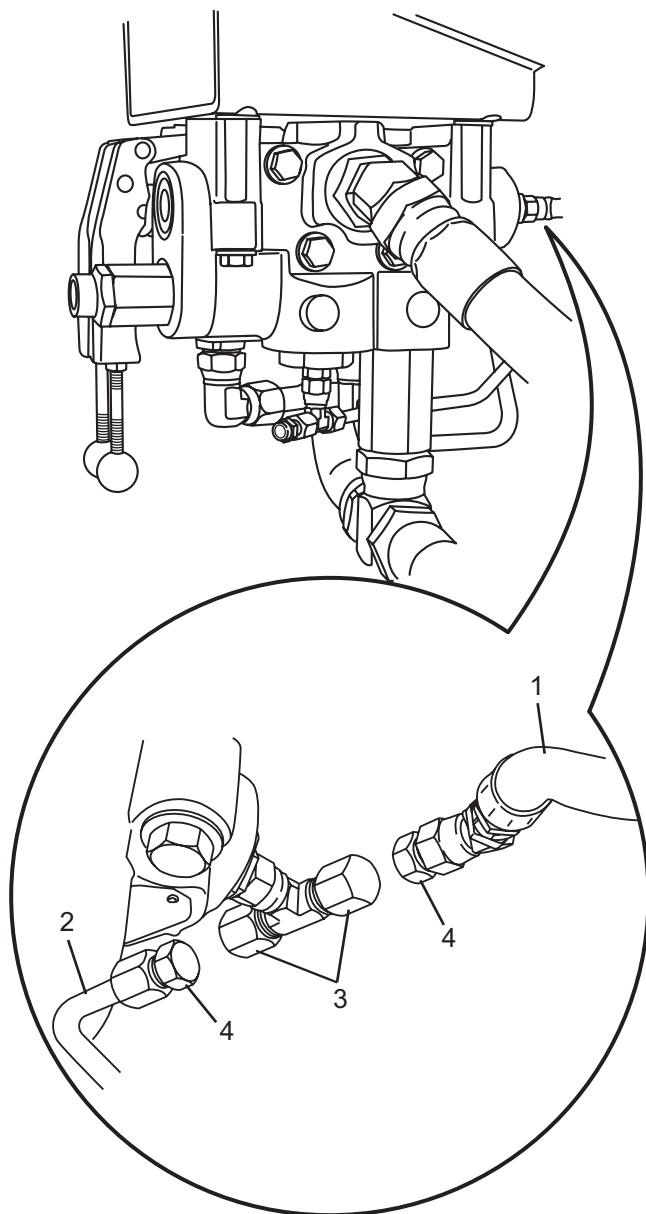

Figure 27
2. Disconnect the flow control sense line (Figure 27, Item 1) and N.O. valve line (Figure 27, Item 2) from tee at inlet unloader valve. Cap both fittings at tee (Figure 27, Item 3). Plug both lines (Figure 27, Item 4).